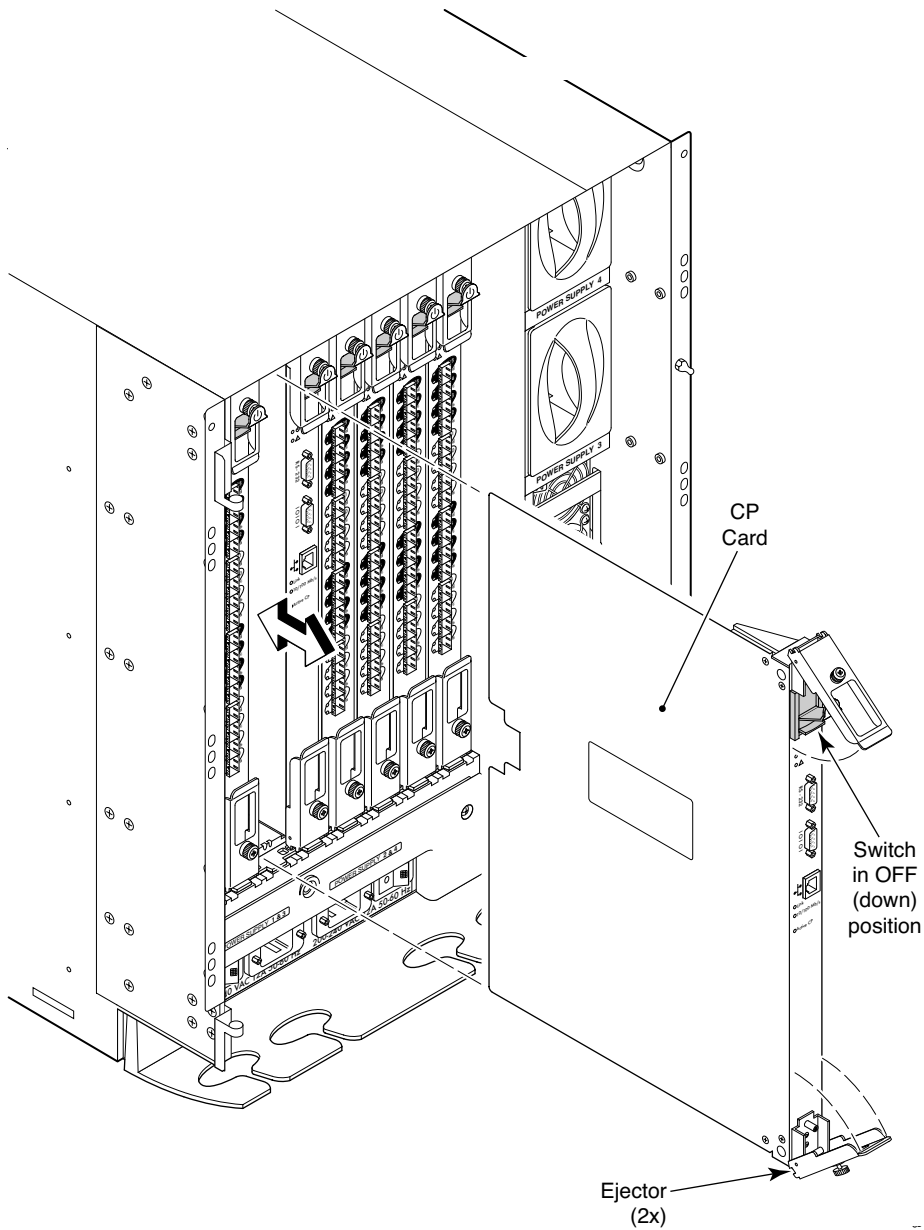

Figure 25 CP card removal and replacement
To remove a CP card (see Figure 25), follow these steps:
2. Turn the CP card off by sliding the ON/OFF switch in the top handle down (see Figure 25).